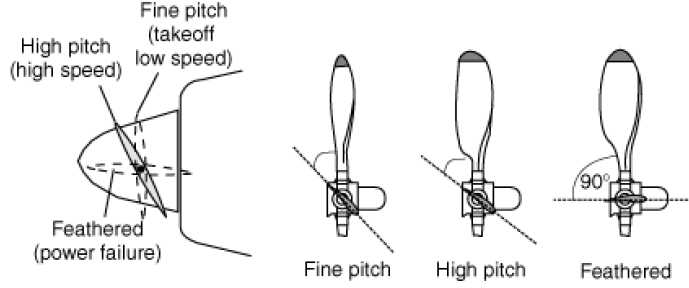

Figure 1.6: Illustration of the pitch angle
- **deltaBeta:** Propeller may vary the pitch angle of their blades by rotating them. This *deltaBeta* represent that offset that will be given to the whole blade (value in degrees). A representation of what the pitch angle is can be seen in Fig. 1.6.